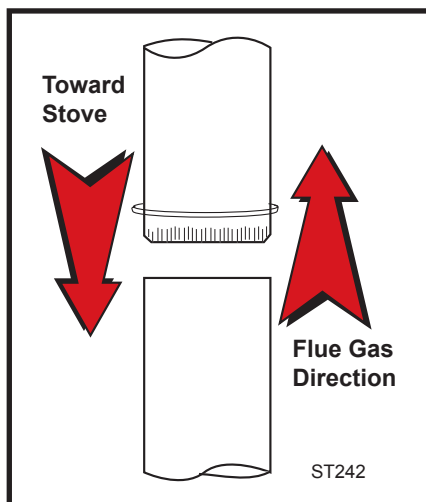

Fig. 4 Crimped sections always point toward the stove so that any liquid condensation will not leak out.
1. Insert the crimped end of the first section into the stove's flue collar, and keep each crimped end pointing toward the stove. (Fig. 4) Using the holes in the flue collar as guides, drill 3 mm